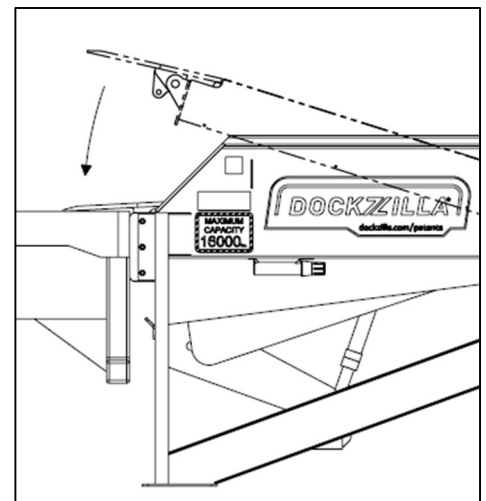

Figure 9: Lowering the Leveler
3. When the lip is fully extended, release the RAISE button to lower the leveler onto the truck bed (Figure 9). Verify the lip is in full contact with the truck bed before loading/unloading.